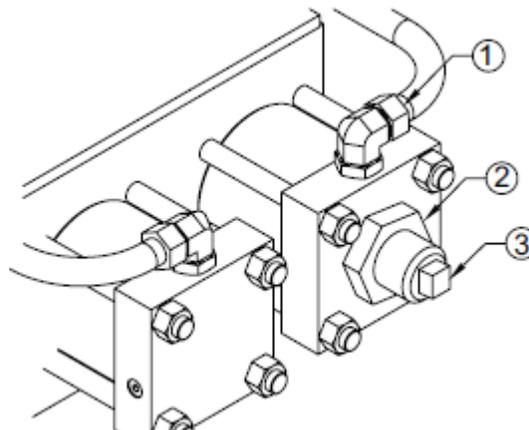

Figure 35: Stroke Adjustment
Actuator stroke adjusters prevent the actuator from over-traveling during a fail-safe condition. If the driven device does not limit over-rotation or over-travel, stroke adjusters can be utilized for this purpose. These stroke adjusters can reduce cylinder rotation by 0–5 degrees. See Figure 35 for details.
4. Locate the hydraulic fitting (1) connected directly to the stroke adjuster cylinder cap as shown in Figure 35. Loosen this fitting to allow oil to escape during this adjustment process. Ensure to capture any oil that escapes.
5. Loosen the jam nut (2), shown in Figure 35, by turning counterclockwise. Back off this jam nut 4 to 5 turns and move the countersunk washer away from the thread seal and against the repositioned jam nut.
8. The actuator stroke adjustment can now be made using the threaded adjustment rod (3), shown in Figure 35.
9. The actuator is shipped from the factory with the adjustment rod (3) extended out to the end of travel to give the maximum rotation of the actuator. The adjustment screw can only be rotated clockwise (inward) from this shipped position. Doing so will restrict rotation of the actuator.